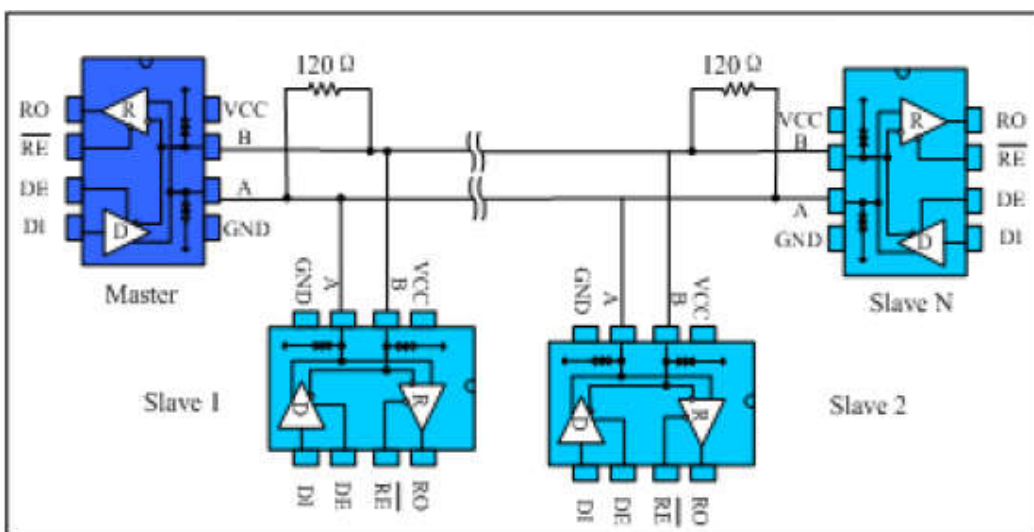

Fig. 9 Bus-type RS485 half-duplex communication network
**4.1 Bus networking:** The SP3485EEN RS485 transceiver is designed for bidirectional data communication on multi-point bus transmission lines. Figure 9 shows a typical network application circuit. These devices can also be used as linear repeaters with cables longer than 4000 feet. In order to reduce reflections, terminal matching should be done at both ends of the transmission line with their characteristic impedance, and the length of the branch wires other than the main line should be as short as possible.